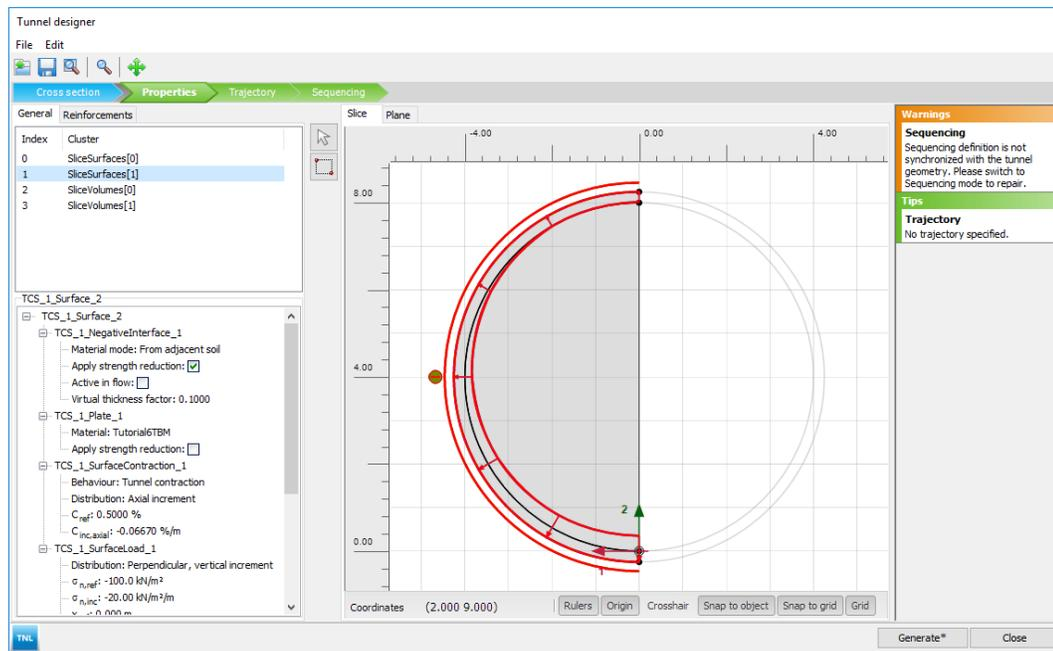

Figure 74: Slice tabsheet in the Tunnel designer
3. Set the  $\sigma_{n,ref}$  to  $-100$  and  $\sigma_{n,inc}$  to  $-20$  and define  $(0 \ 0 \ -4.75)$  as the reference point for the load by assigning the values to  $x_{ref}$ ,  $y_{ref}$  and  $z_{ref}$  (Figure 74: Slice tabsheet in the Tunnel designer (on page 98))